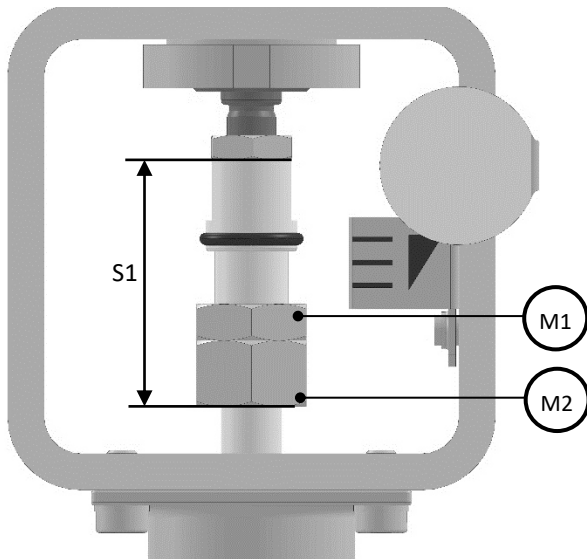

Figure 4: Travel stop for MA8 & MA10
- Screw nut M2 down as far as it will go (see figure 4).
- Screw nut M2 upwards as far as it will go (see figure 4).